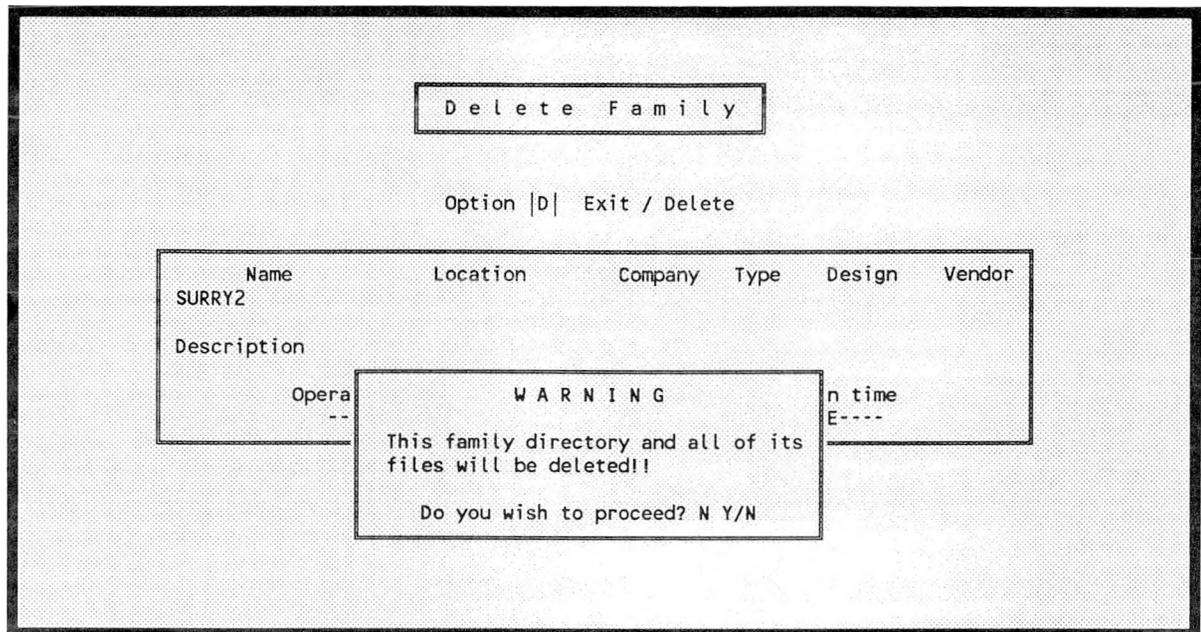

Figure 252. Warning screen for a family delete.
8.2.4.2 Delete. This option verifies the delete family request. To invoke this option, type <D> in the option field and press <Enter>. A warning screen is superimposed over the Delete Family screen allowing you to cancel the deletion process (Figure 252). Enter a <Y> to delete the family or an <N> to terminate the deletion process. If you respond with a <Y>, the message **Deletion completed** will be displayed at the bottom of the screen.